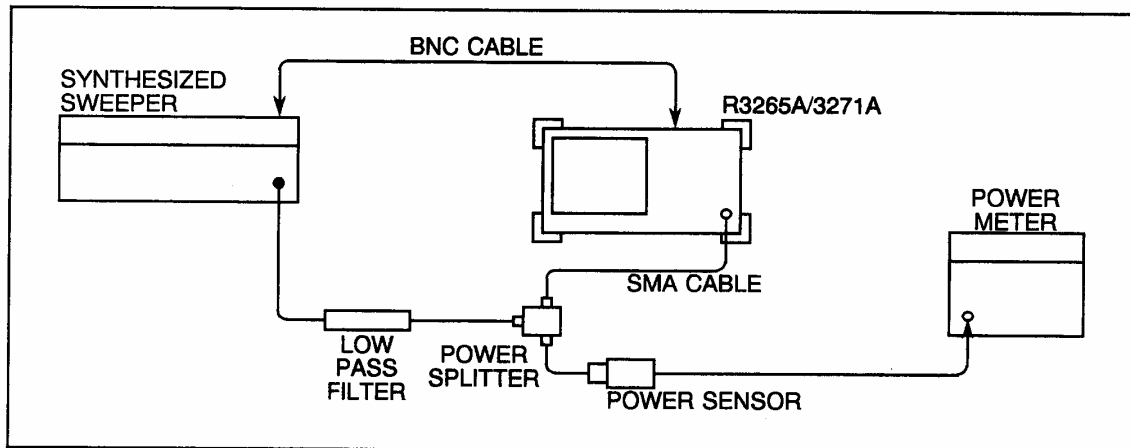

Figure 4-11 Second Harmonic Distortion Test Setup
- (1) Zero and calibrate the power meter. Rotate the CAL FACTOR switch to the power sensor's 1.5 GHz calibration factor.
- (2) Connect the equipment as shown in Figure 4-11.
- (3) Press the **INSTR PRESET** key on the TR4515. Set the TR4515 controls as follows:
- (13) Connect the equipment as shown in Figure 4-11.
- (14) Rotate the CAL FACTOR switch to the power sensor's 1.9 GHz calibration factor.
- (15) Set the TR4515 **POWER LEVEL** key for a 0 dBm ± 0.1 dB reading on the power meter.